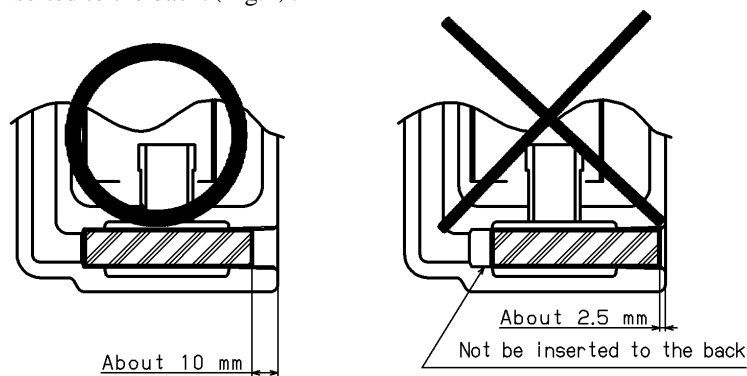

Fig.4
- (1) Remove each part by removing hexagonal bolts⑬ and pulling up cover②.
- (2) Tear spindle⑧ out of cover②, and remove lever-P⑥ and bucket-P③.
- (3) Remove valve seat⑤ by using hexagonal socket (Double-side width: 1/2", 12.7mm).
- (4) Remove plug⑫ and pulling out screen⑨.
- (5) Assembly should be performed the contrary of the disassembly procedure. Use new gaskets.
(5-1) Plug⑫ should be tightened after confirmation that screen is certainly inserted to the back. (Fig.4).